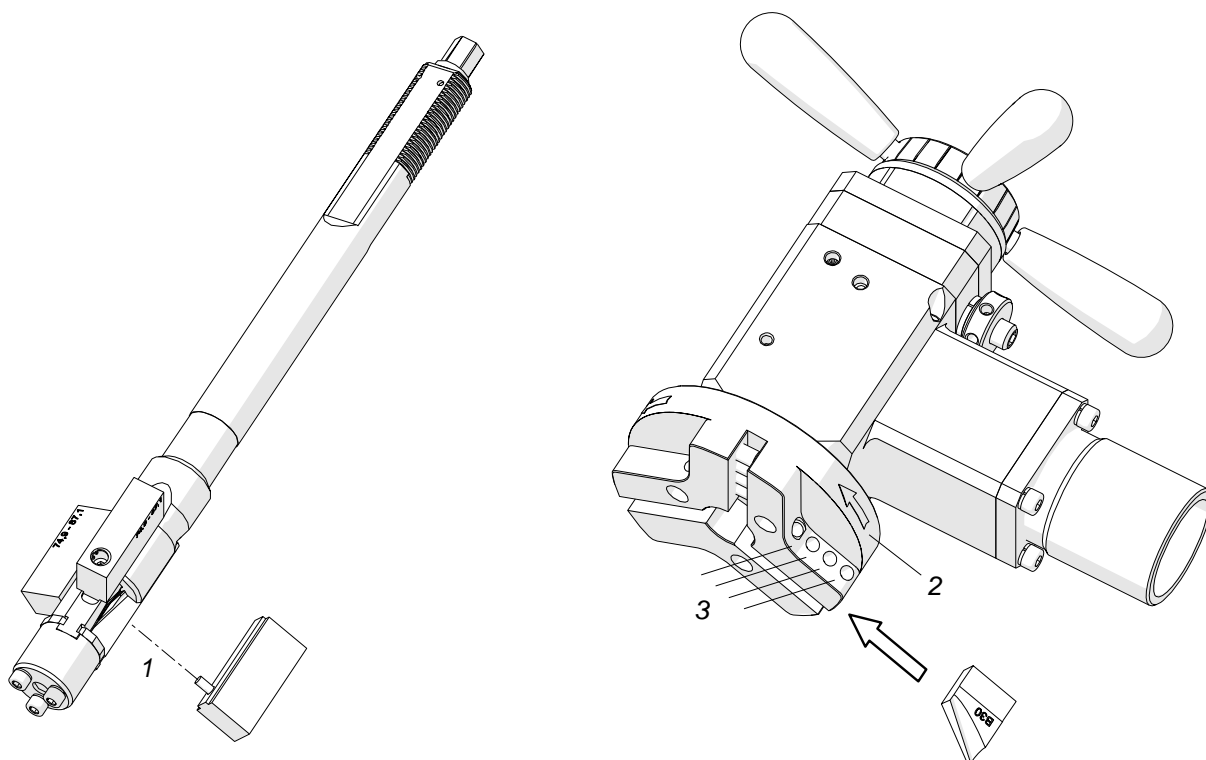

Fig. 2. Installing the jaw blocks and tool bits
Use the 3 mm hex wrench to attach the jaw blocks to the expanding mandrel (1, Fig. 2). Then, select up to three tool bits suitable to planned use, and put them in the sockets. Point the blades in the rotation direction (2). Next, use the 4 mm hex wrench and two of the screws (3) to attach each tool bit. Make sure that the pressing surfaces of the screws are in full contact with the tool bits.